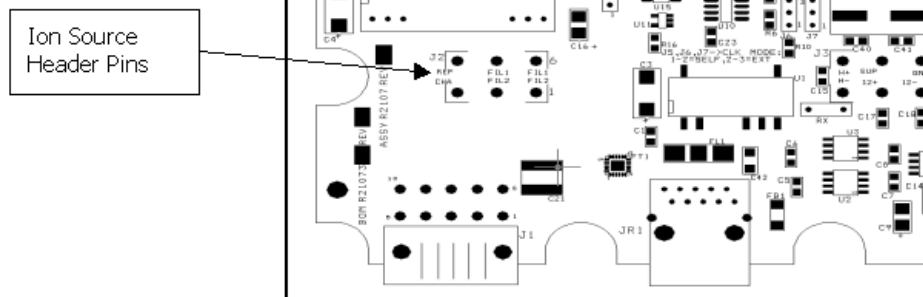

Figure 11: Ion Source Header Pin Schematic
17. On the PCB, use the resistance meter to verify an open circuit between any two of the six ion source header pins (except FIL-1 to FIL-1 and FIL-2 to FIL-2 which should be 0.3 Ohms or less). Also verify an open circuit between the body of the spectrometer and any of the ion source header pins (Figure 11: Ion Source Header Pin Schematic). If there is continuity (short circuit) at any of the points, remove the header and inspect for shorting.